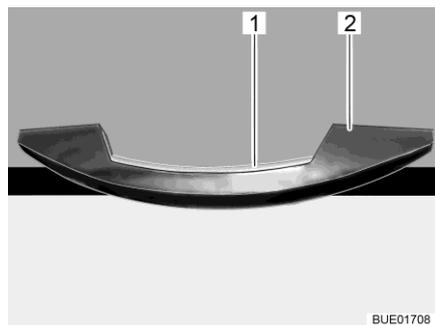

Fig. 65 Handle with unlocking bar (example)
- Press the unlocking bar (Fig. 65,1) and hold it down.
- Pull the handle (Fig. 65,2) until the furniture flap is open.